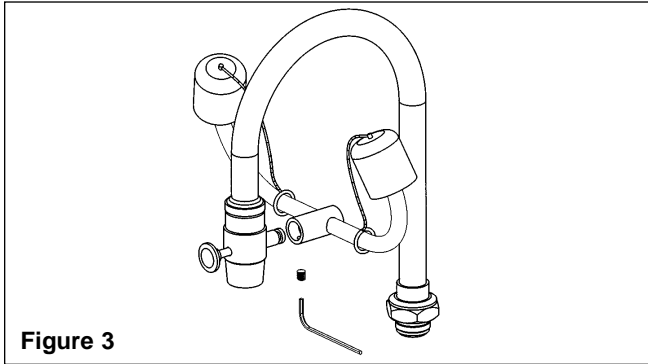

Figure 3
1. Remove Allen screw from Eyewash Yoke Assembly using the enclosed small Allen wrench (see Figure 3).